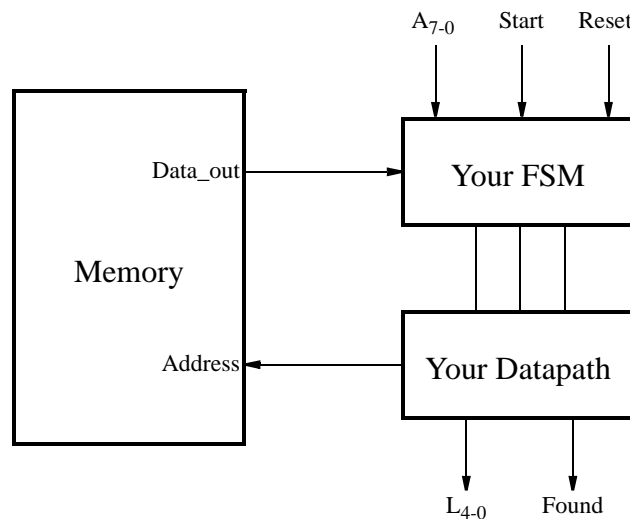

Figure 2: A block diagram for a circuit that performs a binary search.
We wish to implement a binary search algorithm, which searches through an array to locate an 8-bit value A specified via switches SW_{7-0} . A block diagram for the circuit is shown in Figure 2.
3. Connect your FSM and datapath to the memory block as shown in Figure 2.